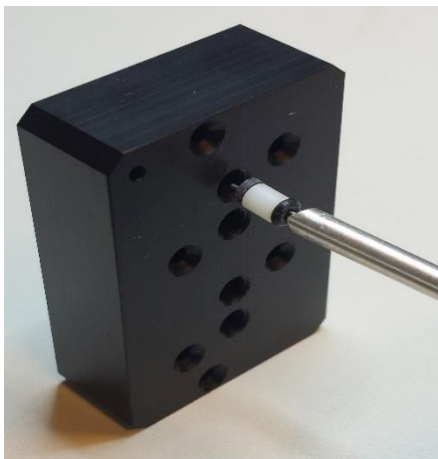

Figure 8
3. Push the spike with the components into the appropriate hole in the valve unit (see Figure 8).
4. Use the coding wheels to enter the code 2 0 0 8 and press the upper left corner of the display (see Figure 8).